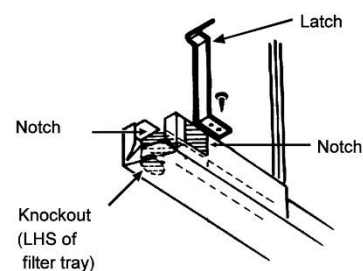

Fig. 2.
- 9 Using four No. 6 x 3/8" screws, secure the two filter carrier retention latches to the rear of the filter carrier, (Fig. 2).